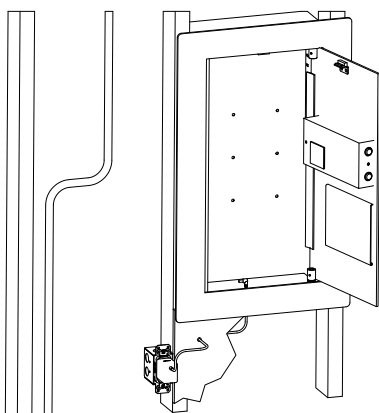

FIGURE 7
- d. Try to locate stud pocket adjacent to one with electric outlet, to facilitate winder power (**Fig. 7**)
- i. Hold safe near hole in wall and pull ends of wires through grommet hole in bottom of safe, temporarily tape or secure in place inside safe (**Fig 7**)